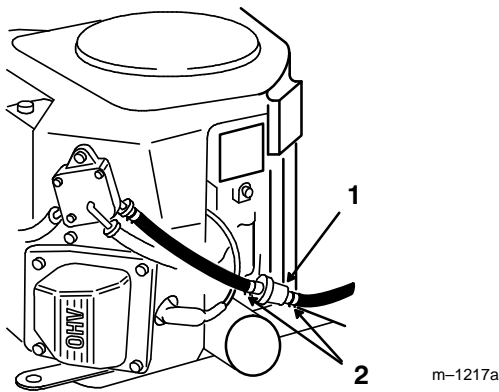

Figure 36
3. Squeeze the ends of the hose clamps together and slide them away from the filter (Fig. 36).